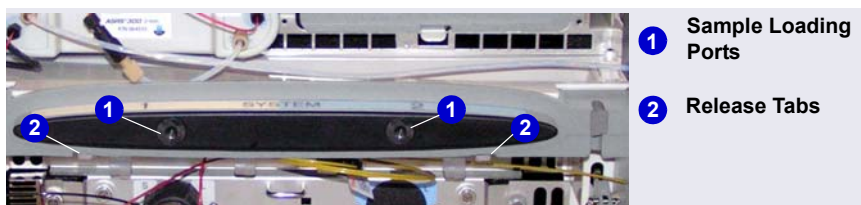

Figure 9-32. DC Sample Loading Ports and Release Tabs
2. Locate the metal release tab under the sample loading port on the front of the DC (see Figure 9-32). Press up on the tab to release the port and pull the port out the front of the DC.